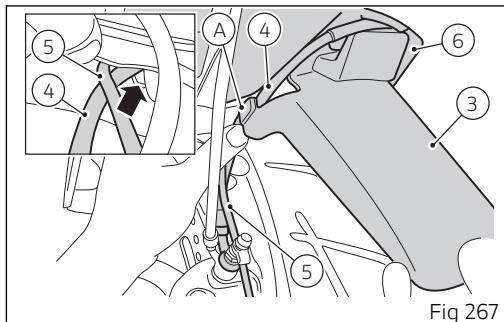

Fig 267
Set front mudguard half kit (3) on front mudguard (6) routing front brake hose (4) and front phonic wheel cable (5) as indicated in figure (Fig 267).